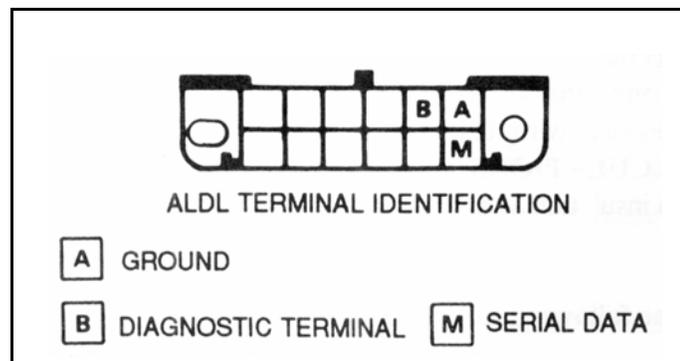

Figure 2.1 Diagnostic Link Connector
7.2.1 In order to retrieve the trouble codes stored in the computer, locate the Assembly Line Diagnostic Link (ALDL) connector. Turn the ignition on, BUT DO NOT START THE CAR. Connect a jumper from ALDL terminal "A" to terminal "B" (see **Page 7 Figure 2.1**) and observe the "check engine" light.